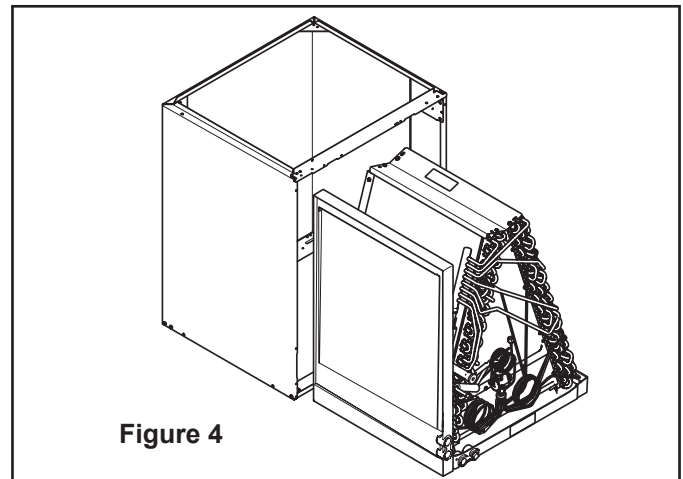

Figure 4
- e. Slide the new horizontal drain pan onto the coil and slide back into the coil cabinet. See Figure 4.